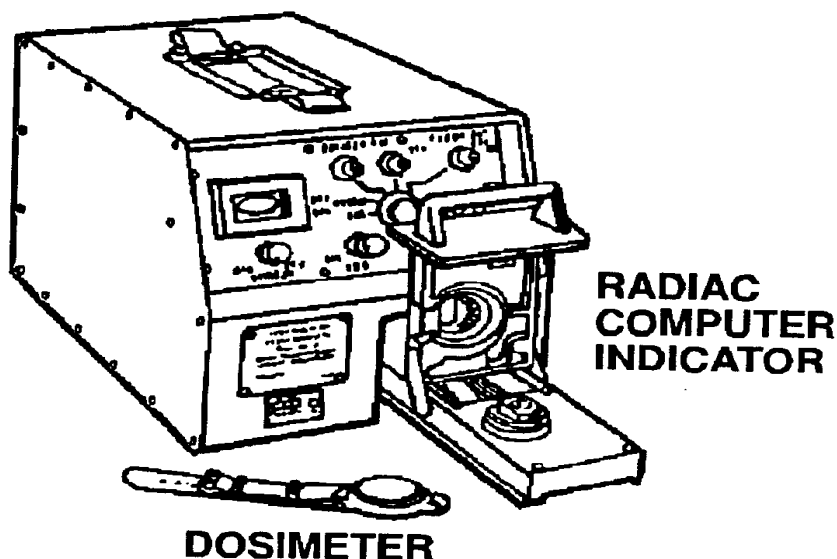

Figure 5-5. CP696/UD Radiac Computer Indicator and the DT236/PD Dosimeter
a. The new DT236/PD individual dosimeter looks like a wristwatch without a face. Wear it on the wrist to measure the cumulative dose of gamma and neutron radiation received. It is designed to augment the IM93 dosimeter. Selected trained personnel use the CP696/UD radiac computer-indicator to read this dosimeter (Figure 5-5). Data obtained form the basis of radiation dose exposure records. Units will maintain one DT236 per individual assigned plus 10 percent for loss or damage. During periods of heightened